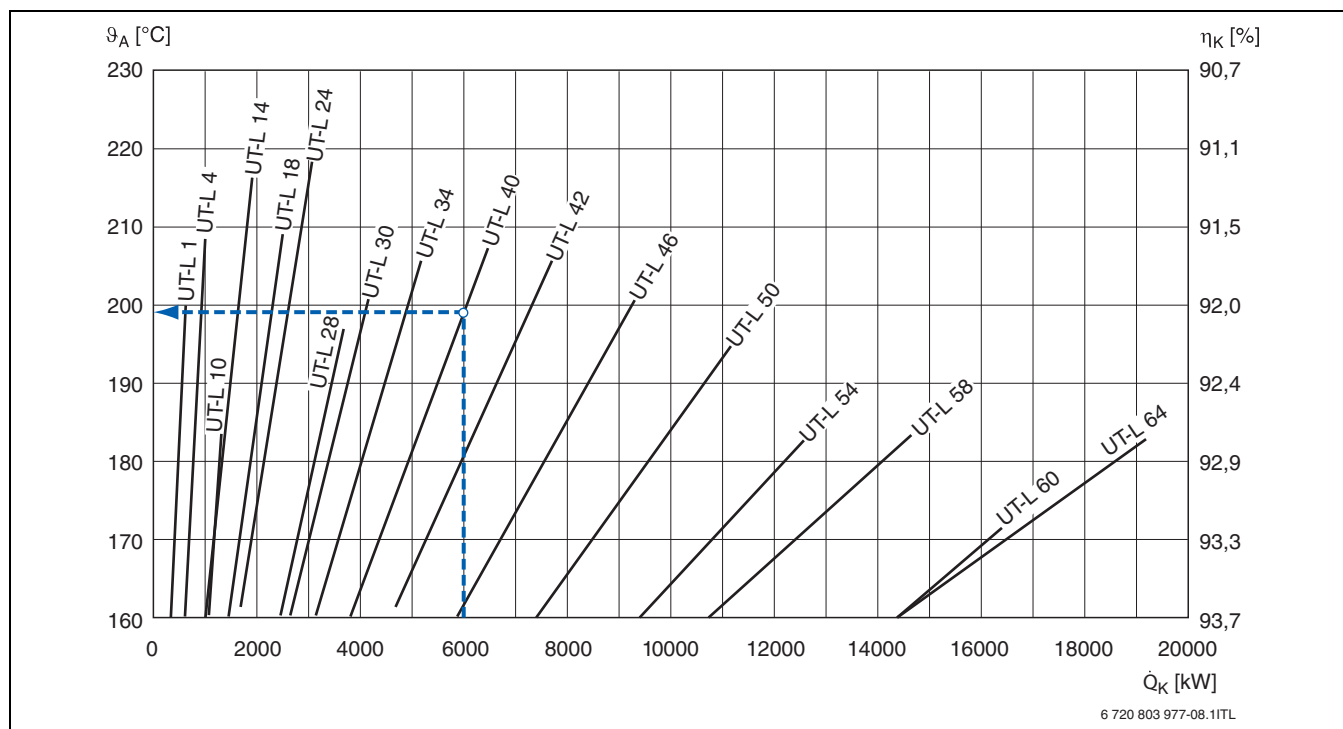

Fig. 21 Flue gas temperatures for UNIMAT UT-L boilers subject to the boiler load – overview 1
The flue gas temperature is the temperature measured inside the flue pipe, specifically at the boiler flue outlet. It depends on the boiler load and the system temperature (→ Fig. 21 to Fig. 23). The minimum possible flue gas temperature should generally be used to calculate the chimney size. This will be approx. 7.5 K below the specified flue gas temperature, relative to an average boiler water temperature of 70 °C.
The flue gas temperature depends on the average boiler water temperature. The flue gas temperatures in the graphs in Fig. 21 to Fig. 23 are relative to a temperature pair of 80/60 °C in accordance with EN 303, i.e. the average boiler temperature is 70 °C (for conversion to other temperature pairs → Tab. 19).
- Flue gas temperature read off $\vartheta_A = 198$ °C (→ Fig. 21)